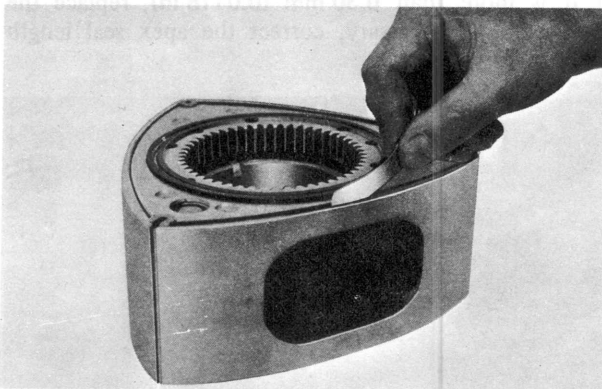

Fig. 1-48 Checking side seal gap
3. Check the gap between the side seal and the groove with a feeler gauge as shown in Fig. 1-48. The standard gap is **0.04 ~ 0.07 mm (0.0016 ~ 0.0028 in)**. If the gap exceeds **0.10 mm (0.0040 in)**, replace the side seal.